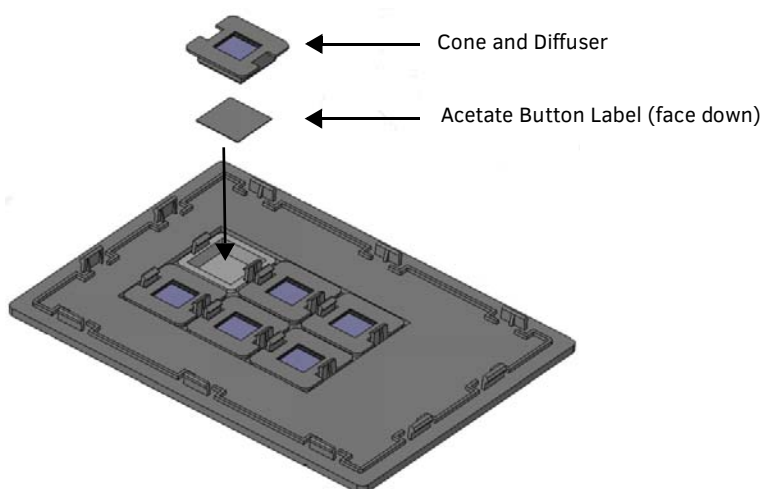

FIG. 23 Placing a Button Label inside a Button Cap
4. Place the Button Cap face-down, and insert the Button Label into the bottom of the Button Cap (FIG. 23).
- Orient the Button Label inside the Button Cap so that the two clips are located on the top and bottom sides of the readable text on the Button Label, as indicated in FIG. 23.